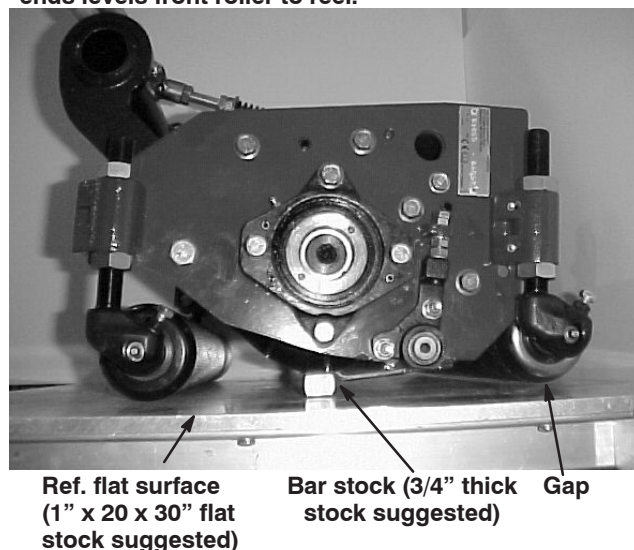

Figure 11
2. Position a straight, parallel sided bar under the reel blades and against the front edge of the bedknife (Fig. 11). For 1" (25 mm) height-of-cut or below, a 3/4" (19 mm) bar is recommended. For heights-of-cut above 1" (25 mm), a 1-1/4" (32 mm) bar is recommended.
3. Rock cutting unit forward (on reel blades and steel bar) until front roller contacts flat surface. Reel blades and bedknife must maintain contact with bar. Rear roller should not contact surface (Fig. 11).